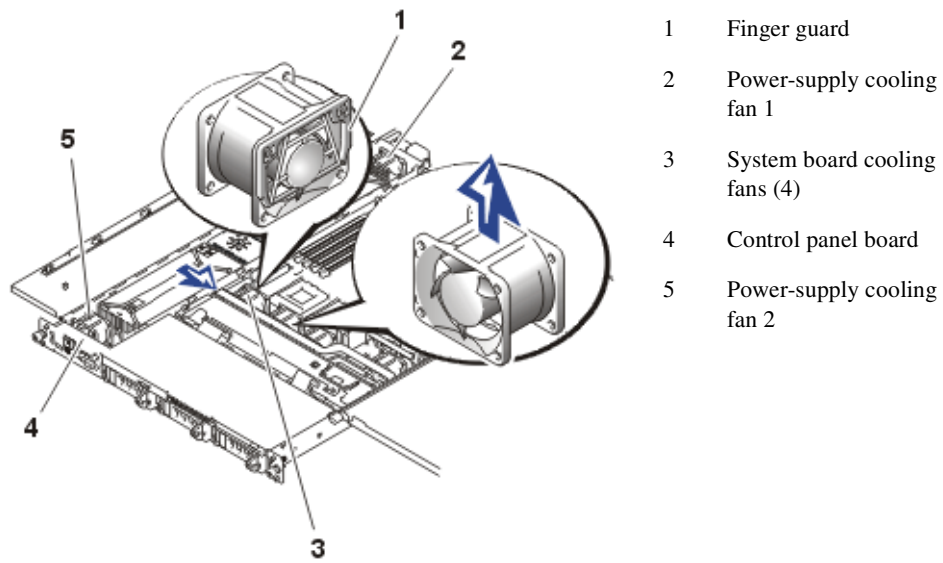

Figure 4-5: Cooling Fan Replacement
3. Check the cooling fan power cable connection on the system board or control panel board (see Figure 4-5). If the problem is not resolved, install a replacement cooling fan.
5. Lift the defective fan out of the power-supply bay or fan bracket (see Figure 4-5).
When replacing the fan, ensure that the finger guard on the fan faces the back of the system and the fan cable points toward the fan power cable connector on the system board or control panel board (see Figure 4-5).